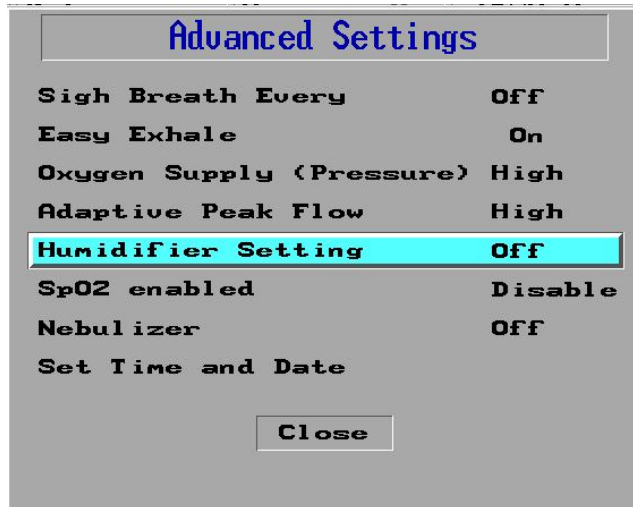

Figure 88: Humidifier Setting Selected
2. In the **Advanced Settings** screen select **Humidifier Setting** (Figure 88). The current setting is shown in the right column of the screen.